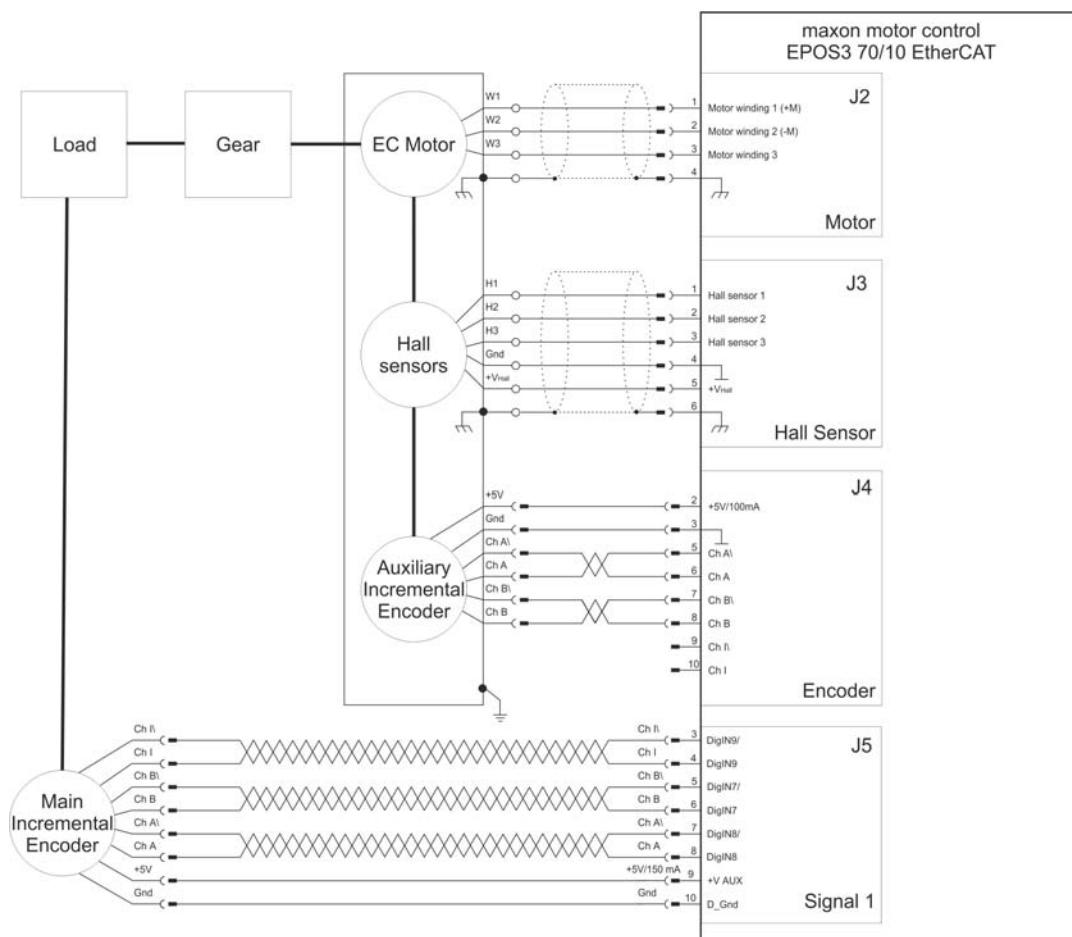

Figure 9-103 Example 2 – Wiring Diagram
- 1) Wire the system according to the wiring diagram (→Figure 9-103).